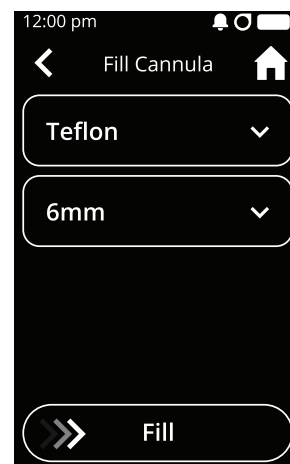

Figure 69
- Select the type and length of your infusion set cannula. Refer to the manufacturer’s instructions to find this information. Drag the **Fill** slider to the right (see Figure 69).